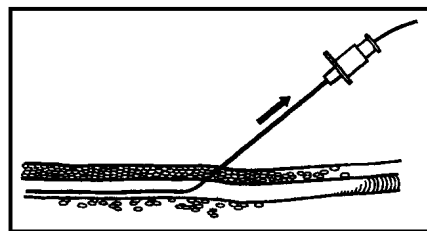

Figure 3-22
- (g) Once about two-thirds of the length of the guide wire has been passed into the vein, release the needle, place pressure on the skin puncture site with one finger, and remove the needle from the dog, leaving the guide wire in place in the vein with about one-third of its length exposed. (See Figure 3-22.)